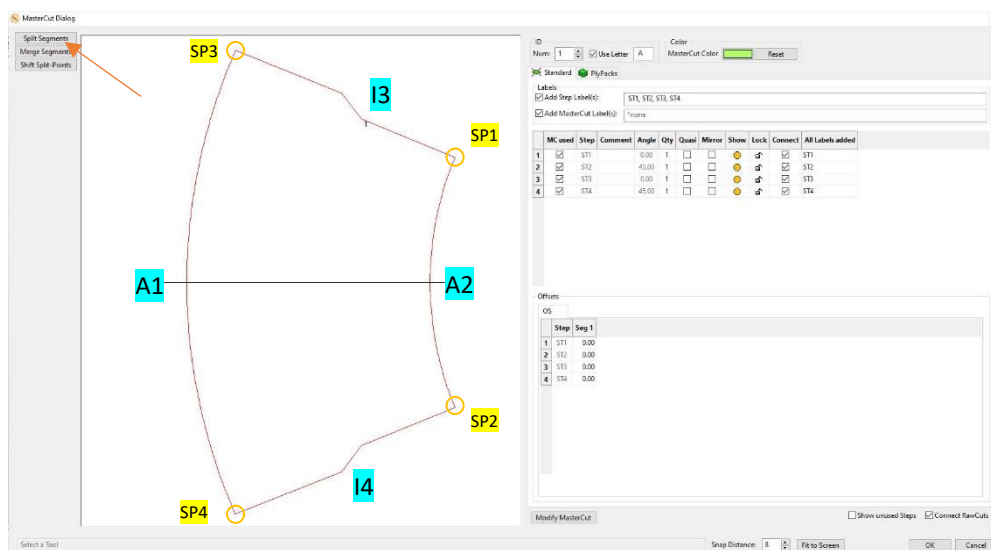

Figure 109
15. Next, split the outline of our mastercut into our four segments **A1**, **A2**, **I3**, **I4** (Figure 109). Therefore select **Split Segments** in the upper left corner of the MasterCut Dialog.